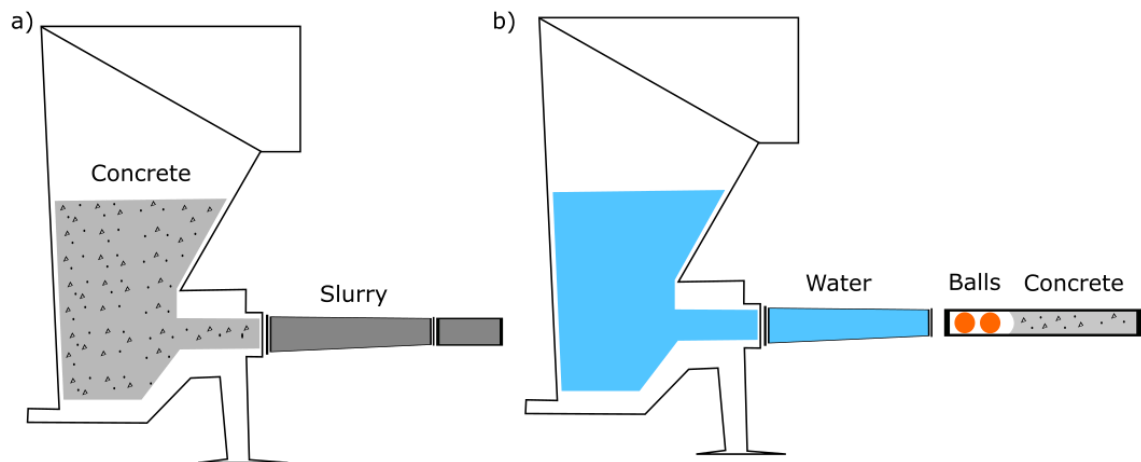

Figure 9: a) Start-up and b) cleaning procedure.
Remove the s-valve flange to clean. During pumping cement paste enters between moving parts of the s-valve. When the cement paste hardens the s-valve is prevented from switching between the pistons. The issue can be addressed by removing flange and removing the paste buildup inside the flange groove (Figure 9). Remember to grease the flange before re-assembly.
11. Reconnect hose to reducer. The balls separate the water from mixing with the concrete, this separation is important to prevent segregation blockages (figure 9 b)